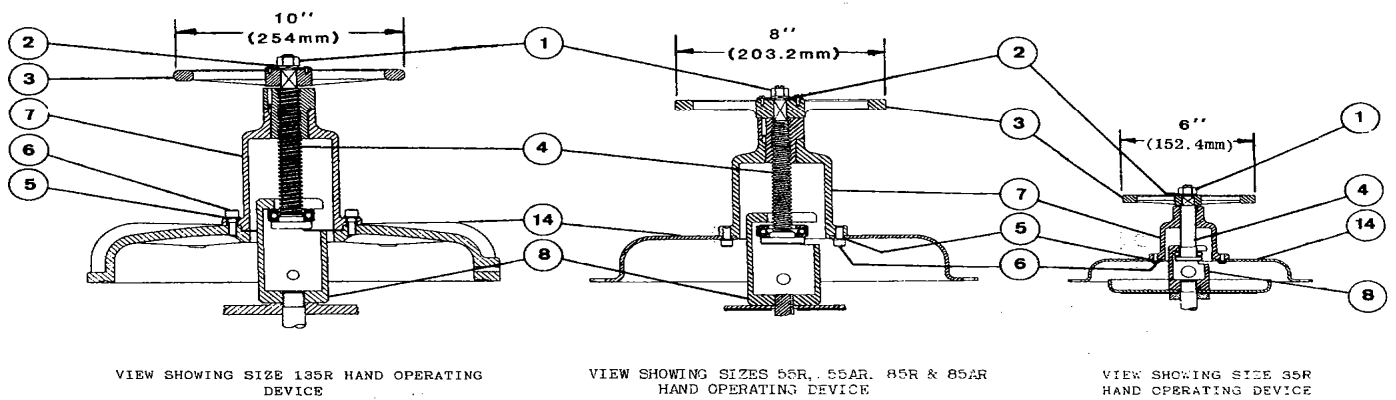

Figure 3 - Reverse Diaphragm Actuator/ HOD
(see Fig 3)
1. Remove nut (1), lockwasher (2), and handwheel (3).
2. Screw handscrew (4) into the bonnet as far as it will go.
3. Remove nuts and bolts (18,19 see Fig 3) from upper diaphragm case (14).
3. Tighten nuts and bolts (18,19 see Fig 3) into upper diaphragm case (14).
4. Screw handscrew (4) up through bonnet (7).
5. Place handwheel (3) over stem. Install lockwasher (2) and tighten nut (1).